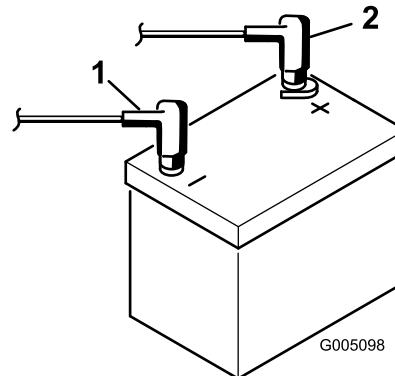

Figure 8
- Install the positive cable (red) to the positive (+) terminal and then the negative cable (black) to the negative (-) terminal of the battery and secure them with the bolts and nuts (Figure 8). Slide the rubber boot over the positive terminal to prevent a possible short from occurring.